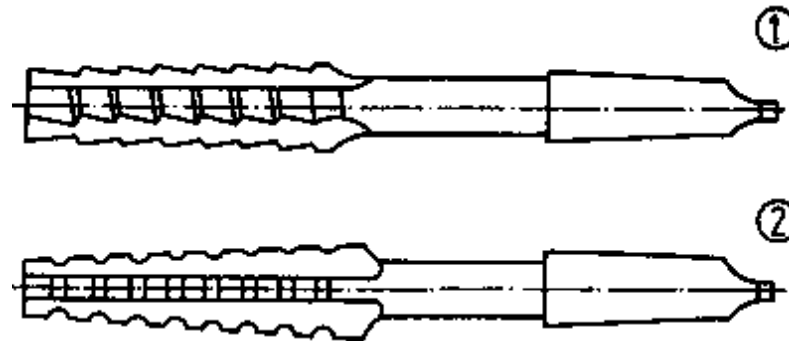

Figure 18 Pre-machining reamers (1) roughing reamer (2) semi-finishing reamer
- Roughing reamers can also be used for taper reaming of holes pre-machined as straight stepped holes (Fig. 18).